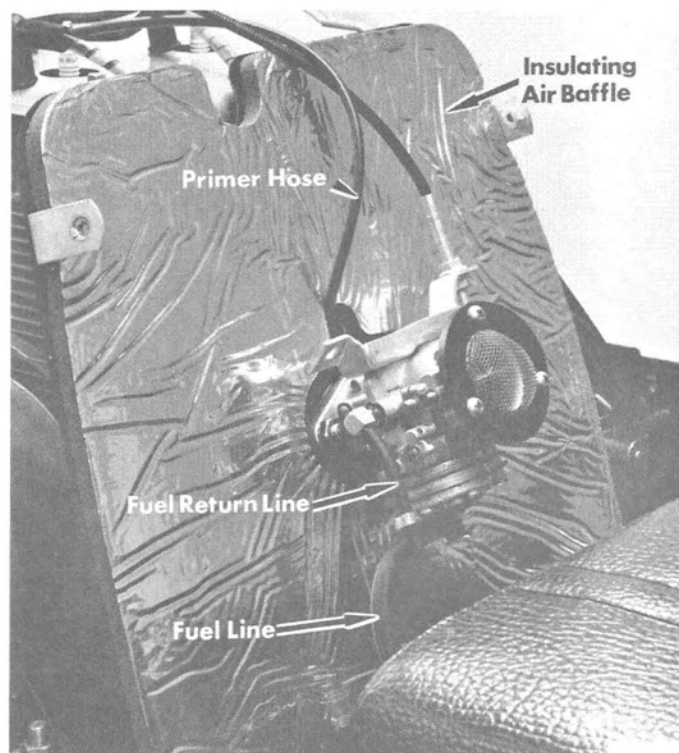

Figure 4. Engine Removal/Installation
10. Disconnect fuel line, fuel return line, primer hose and pulse hose from carburetor. (Figure 4)
9. Connect pulse hose, primer hose, fuel return line and fuel line to carburetor. Remove clamp from fuel line, if used. (Figure 4)